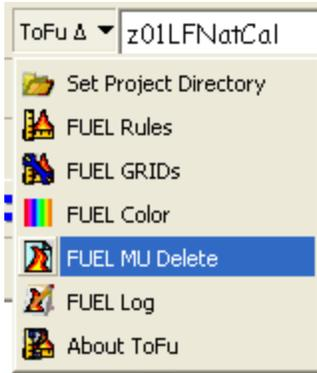

Figure 7-42. Select **FUEL MU Delete** from the ToFu Δ drop-down menu.
- Click **FUEL MU Delete** on the ToFuΔ drop-down menu to delete selected management units (fig. 7-42).